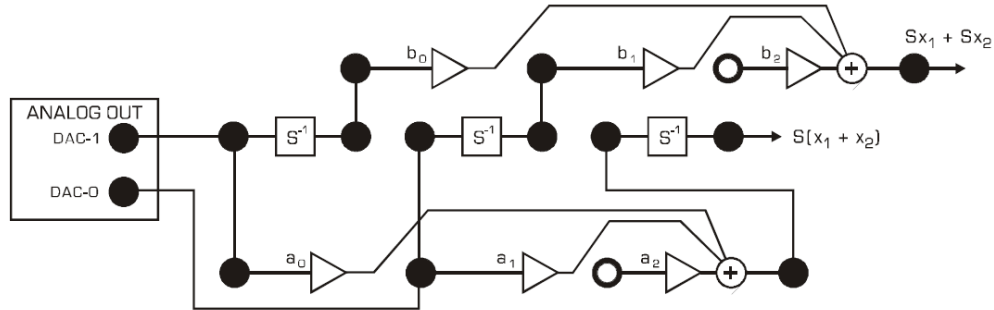

Figure 2-11 Model for Generating the $S(x_1+x_2)$ and Sx_1+Sx_2 arrangements simultaneously
3. Patch up the 2 models as shown in Figure 2-11. Settings are as follows: